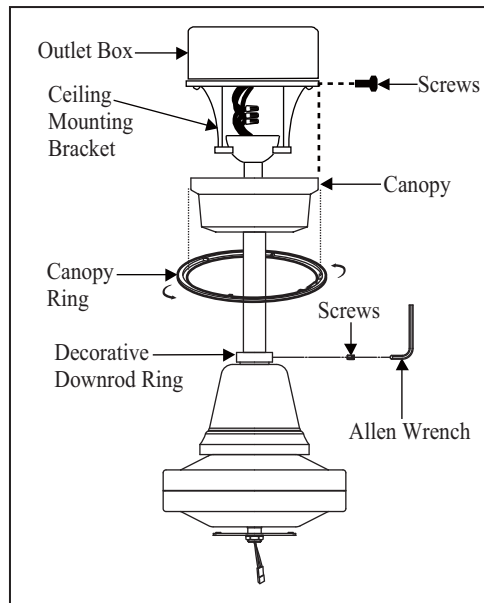

Figure 15
1. Slide canopy up to the ceiling as shown in Figure 15. Make sure you place the wires safely into the outlet box. Secure the canopy to the mounting bracket with the four screws with your fan. Slide the canopy ring over the canopy and turn the canopy ring clockwise until the canopy ring are locks in place.